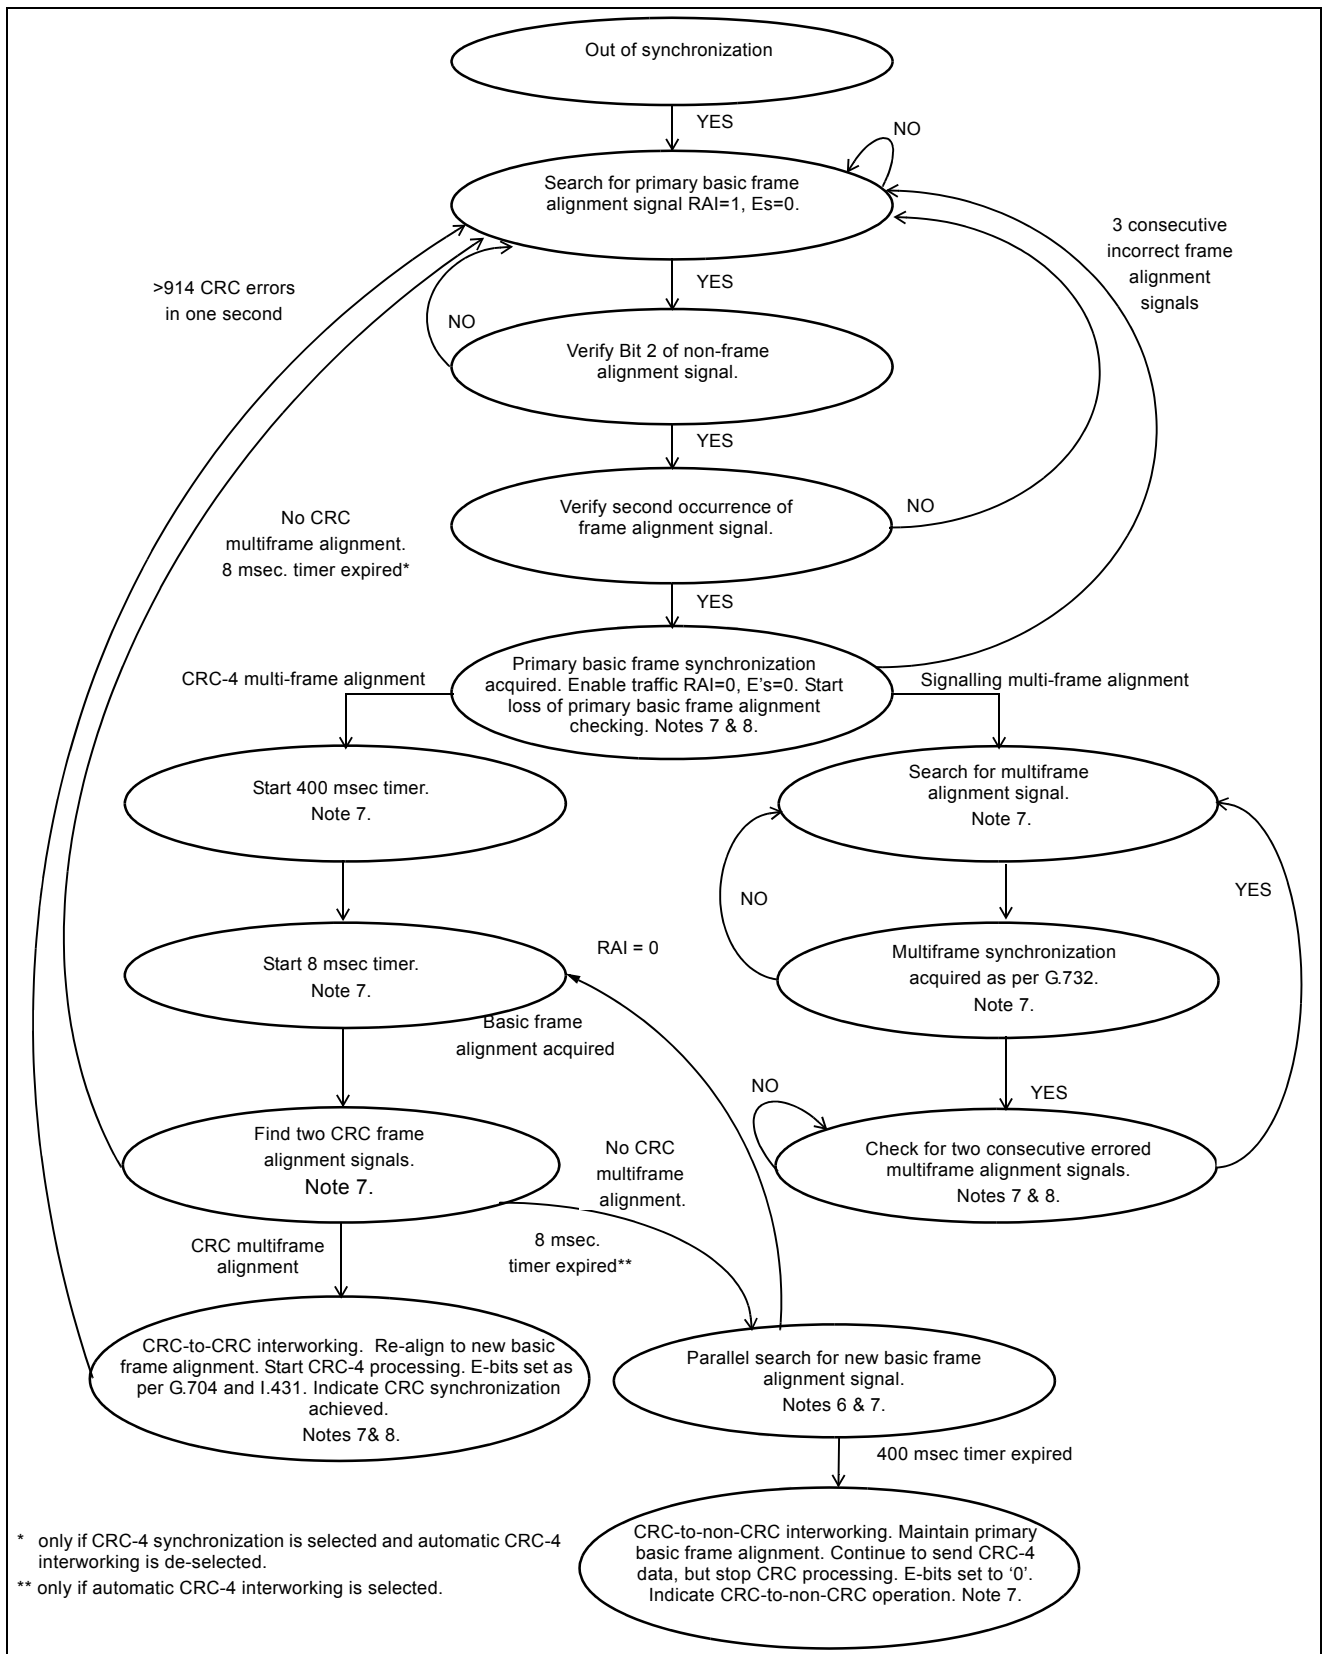

Figure 14 - Synchronization State Diagram
In E1 mode, MT9076 contains three distinct framing algorithms: basic frame alignment, signaling multiframe alignment and CRC-4 multiframe alignment. Figure 14 is a state diagram that illustrates these algorithms and how they interact.
10.2.1 Notes for Synchronization State Diagram (Figure 14)